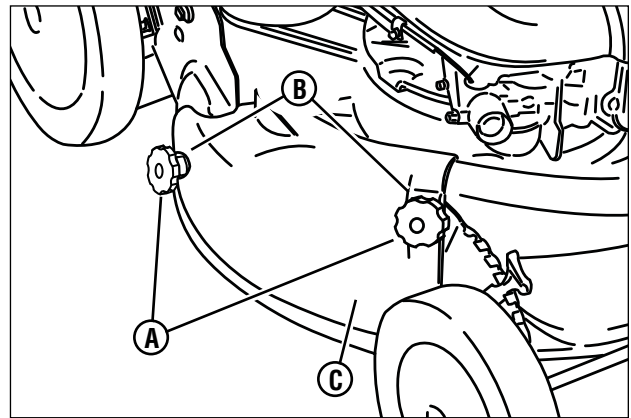

Figure 9: Removing the recycling cover
1. Remove the knob nuts (**A**, **Figure 9**) and internal/external tooth lock washers (**B**) securing the recycling cover (**C**) to the mower deck.